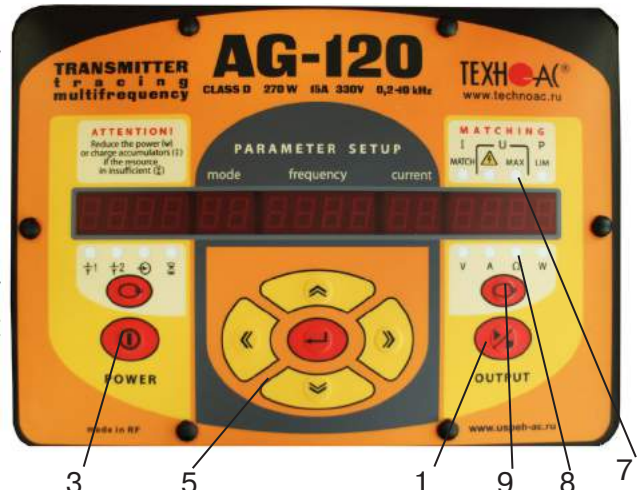

Fig.12.10
### 1) Indication on the field «POWER» **figure 12.10.**
- If the LEDs on the field «OUTPUT» **are not illuminated**– the transmitter is in the standby mode («stop»). The parameter setup can be conducted or the generation (automatic matching) may be initiated immediately by depressing of the button pos.10. The mode «stop» will last for 1 minute. If no button is depressed the internal electronic power switch will switch the power off automatically.
- If one of yellow LEDs **is illuminated** on the field «OUTPUT» (and the external switch pos.1 is highlighted), the power has been turned off during generation and the same mode with the previous settings is restored. The automatics tries to recover the situation through the automatic matching. If it is necessary to change the set parameters, stop the generation with the button « » pos.10 on the field «OUTPUT» («turn off» the yellow LED and illumination of the external switch with one or two pressing) and proceed to the parameters setup.
During the generation the estimated values of output parameters are indicated on the digital field «OUTPUT»: load voltage «V», load current «A», load resistance «Ω», load power «W». The accuracy of measurement ( $\pm 5\%$  for «V» and «A» and  $\pm 10\%$  for «Ω» and «W») is sufficient for situation evaluation and decision making. The indicated parameter is selected by the button « $\frac{1}{2}$ » pos.9 the LED corresponding to the selected parameter is illuminated pos.8 figure 12.10.
After complete attempt of automatic matching (not aborted) the field «MATCHING» pos.7 figure 12.10 reveals the result: